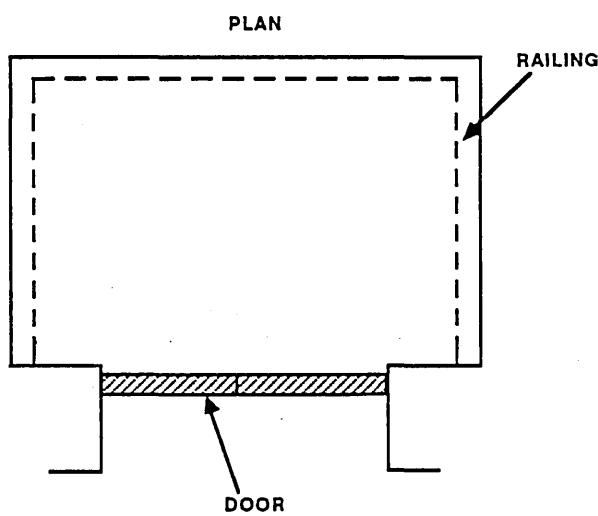

Figure 2-19. Elevator
3. Be sure to consider the space taken by elevator railings and doors (figure 2-19). If railings are not removable, measure to railing not to wall.